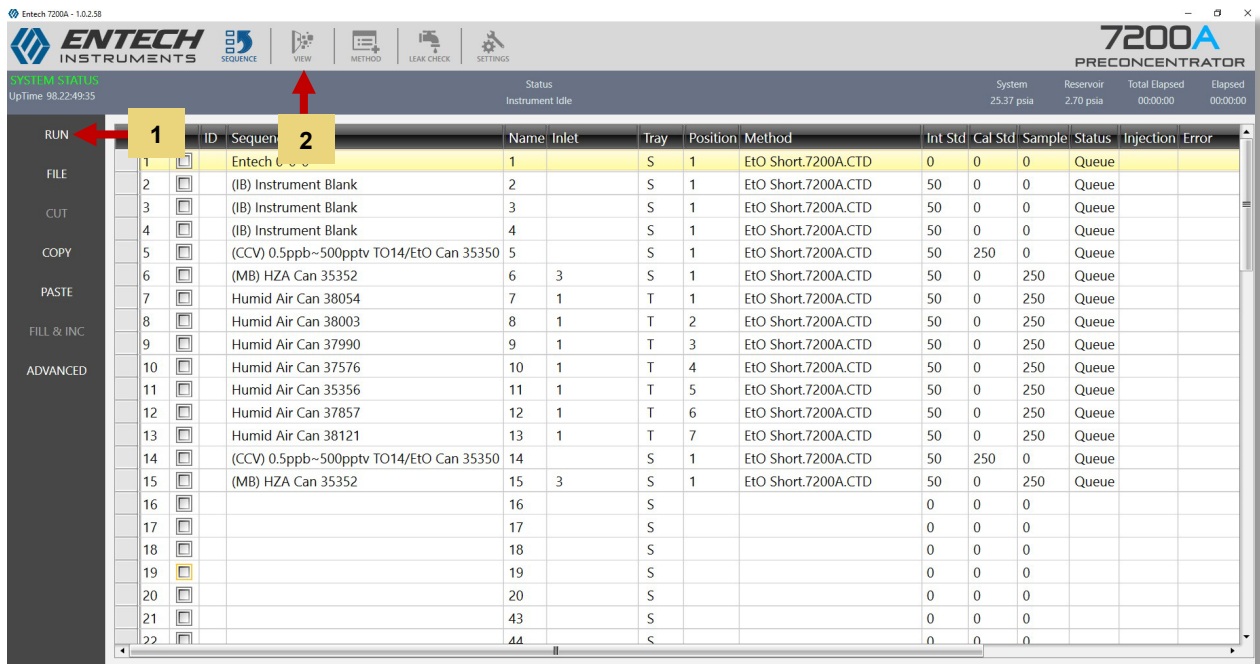
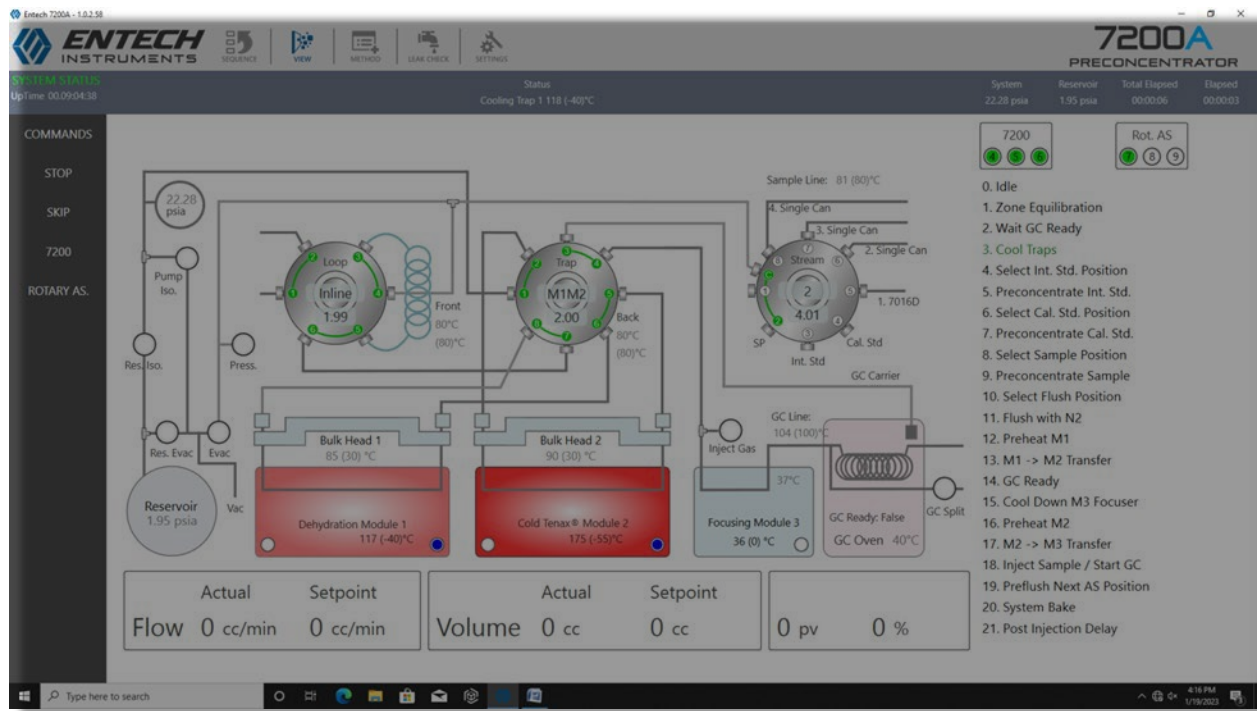

Figure 16. Completed Entech sequence.
Figure 17. System view.
3. To begin the preconcentration of samples using the Entech, **after completing the steps in section 8.3**, click the first sample entry in the Entech sample list to highlight the sample (Figure 16). This ensures the Entech selects the first sample entry once the sequence is initiated.
4. Click **Run** on the toolbar ([1] in Figure 16).
5. Click **View** ([2] in Figure 16) to view the instrument set points and the steps of the analysis, which are shown in Figure 17. The Entech sequence will run until all entries in the sample list have been analyzed, and the system will then stay in standby mode until the operator intervenes. Standby mode is indicated when step **0 Idle** appears in green on the system view screen.